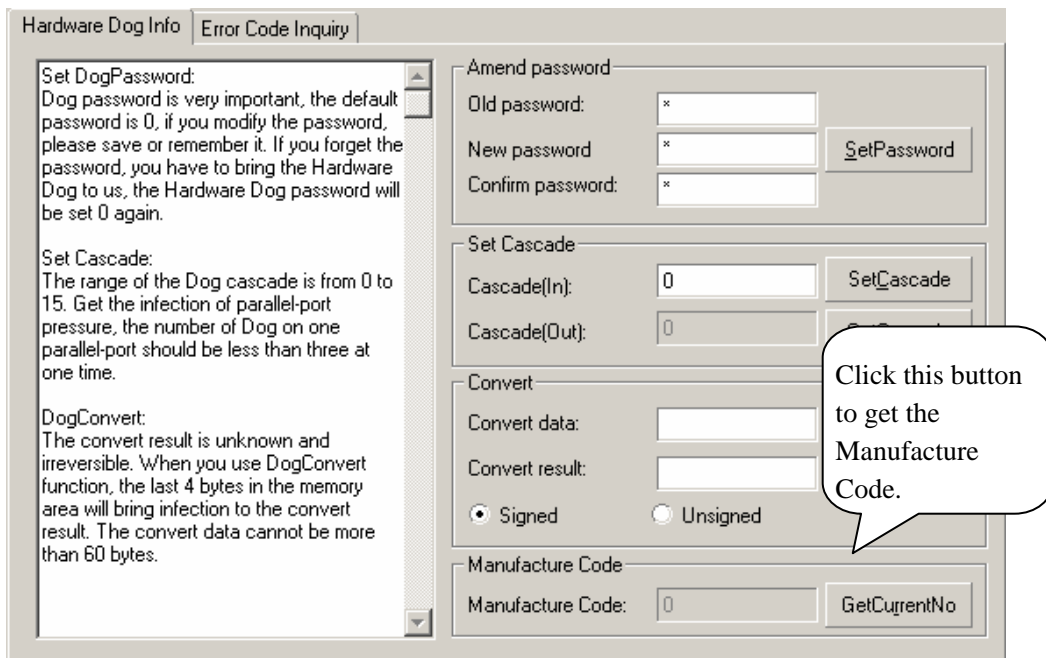

Figure 3-8
D. Do as the description on the Figure 3-8 to get the Manufacture Code.